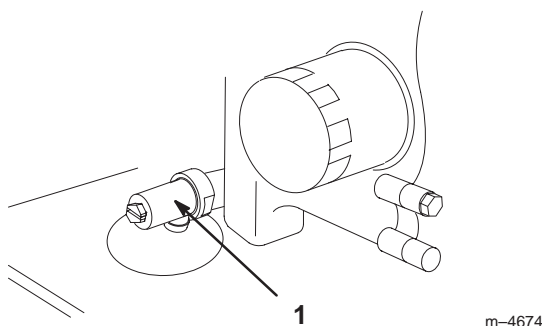

Figure 34
3. Place a pan below the oil drain. Use either a flat screw driver, 3/8 inch or 10 mm wrench to open valve (Fig. 34).
4. Rotate valve end clockwise to close valve. Rotate valve end counterclockwise to open valve (Fig. 34).
5. When oil has drained completely, close the drain valve (Fig. 34).